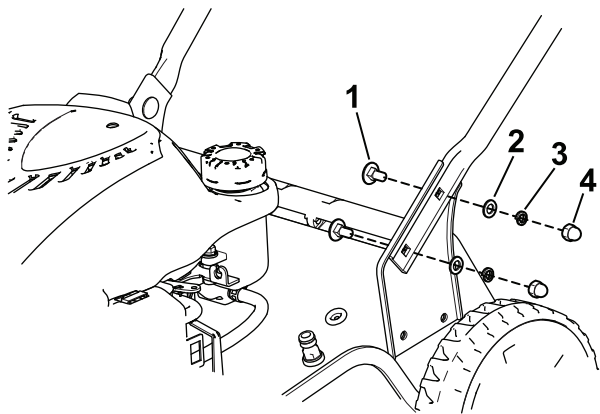

Figure 3
1. Attach the lower handle to the mower housing with the 4 bolts, 4 flat washers, 4 split washers, and 4 nuts (Figure 3).